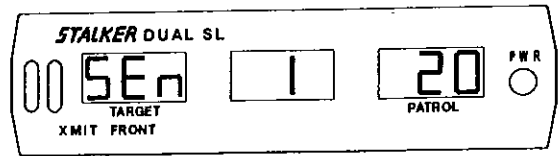
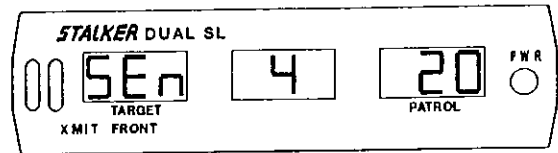

Fig 14
Fig 17
The range (or sensitivity) of *STALKER DUAL SL* is adjusted by pressing the **SEn** key. This key cycles through the four (4) sensitivity levels; **SEn 1**, **SEn 2**, **SEn 3**, and **SEn 4** (Fig 14 - Fig 17, respectively). In each case, the center display refers to the current sensitivity setting. The shortest range is **SEn 1** (Fig 14), and the longest range is **SEn 4** (Fig 17). The range (or sensitivity) must be set for same lane moving mode and opposite lane moving mode separately. While in each mode, (same lane and opposite lane), indicated by the presence or absence of the **SAME** icon, set each sensitivity as described above.